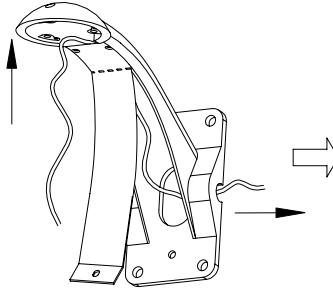

Figure 6
- 3) Take out system control wires from the bracket ( Figure 6 ) .